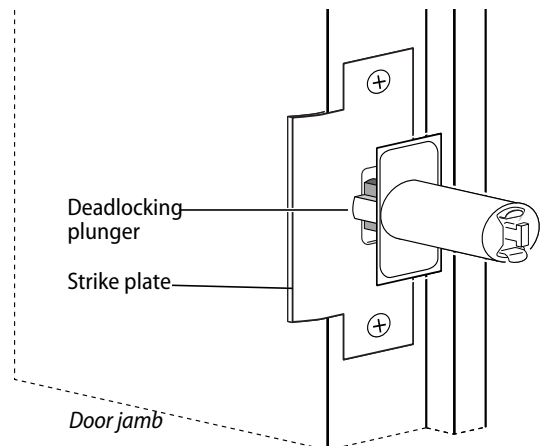

Figure 7 Aligning the deadlocking plunger with the strike plate
**Caution:** The deadlocking plunger of the latchbolt must make contact with the strike plate, as shown in Figure 7. The plunger deadlocks the latchbolt and helps prevent someone from forcing the latch open when the door is closed.